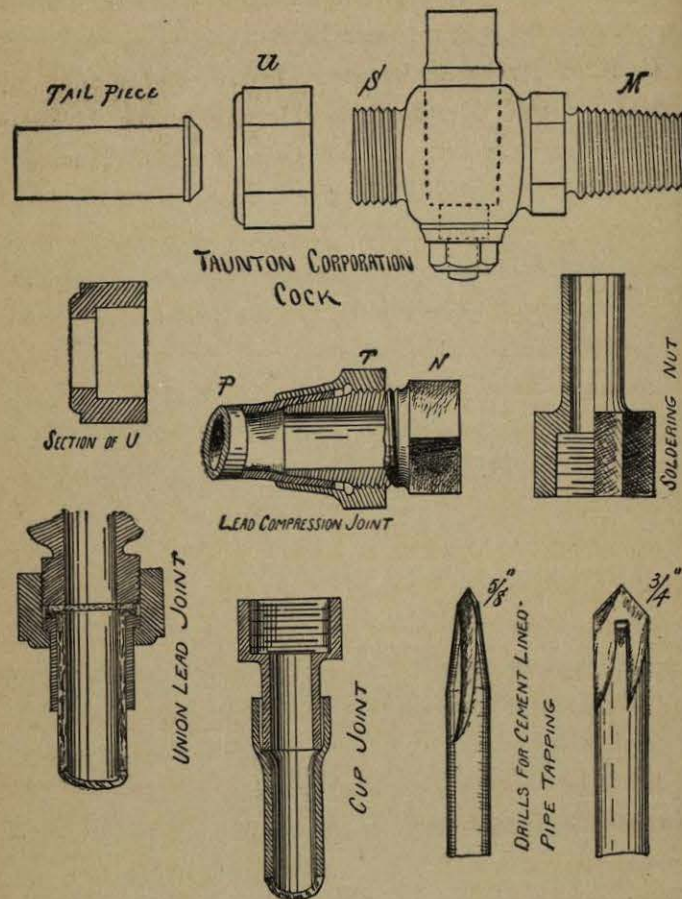

FIGURE 22.
Referring to Figure 22, in which is represented the particular pattern of corporation cock, with full $\frac{3}{4}$ -inch way designed by the writer, for use upon the Taunton Water-Works, the end M is the end which is screwed into the main. The general form of this end is the same no matter what is used for service-pipe. Something is saved in the cost of manufacture by using the same thread at S and M. Eleven, twelve, fourteen, or sixteen threads to the inch are admissible, but fourteen has been found to give good results in the practice of the writer. At the end S and in the parts immediately following there is room for great variation in form and method. With the nut *u* (shown also in section) and the tail-piece forming a ground union-joint at the end S, this form of cock may be used (1) with lead service-pipe by making a wiped joint or a cup-joint between the lead pipe and the tail-piece; or (2) with any kind of wrought-iron service-pipe by joining on to the tail-piece a short piece of lead pipe, perhaps 18 inches, just as if the service were to be of lead pipe, and then, by attaching a soldering nut, as shown, and continuing the line with screw-joint pipe.
The compression-joint was in use a few years ago in Taunton, but was abandoned for a cup-joint. The corporation-cock then in use was shaped at the end S like the projecting part of N in the compression-joint shown in Figure 22, and tightness was secured by scraping the outside of the lead pipe to a reasonably smooth surface, so that the cone-shaped nut would draw the lead pipe firmly over the conical projection; the lead pipe having been first spread by driving in a solid plug.
It is evident that this principle can be applied in a variety of ways, and that castings can be designed to fit any combination of materials. For example, the cup-joint in Figure 22 shows how a wrought-iron service-pipe may be joined to a lead connection from the corporation-cock. The lead pipe is attached by a wiped or cup joint to the soldering nut, which is tapped out to receive any size of wrought iron or brass pipe that one chooses.
Still another form of joint has been brought to my attention, by Mr. J. G. Briggs, Superintendent of Water-Works at Terre Haute, Ind., and shown also in Figure 22, as a union lead joint. Mr. Briggs says the idea is not a new one, but was used twenty years ago or more by an English company who did a large amount of work at Rio Janeiro, Brazil, and that in San Francisco the joint has been used for sixteen years with good results. The lead pipe is put through the